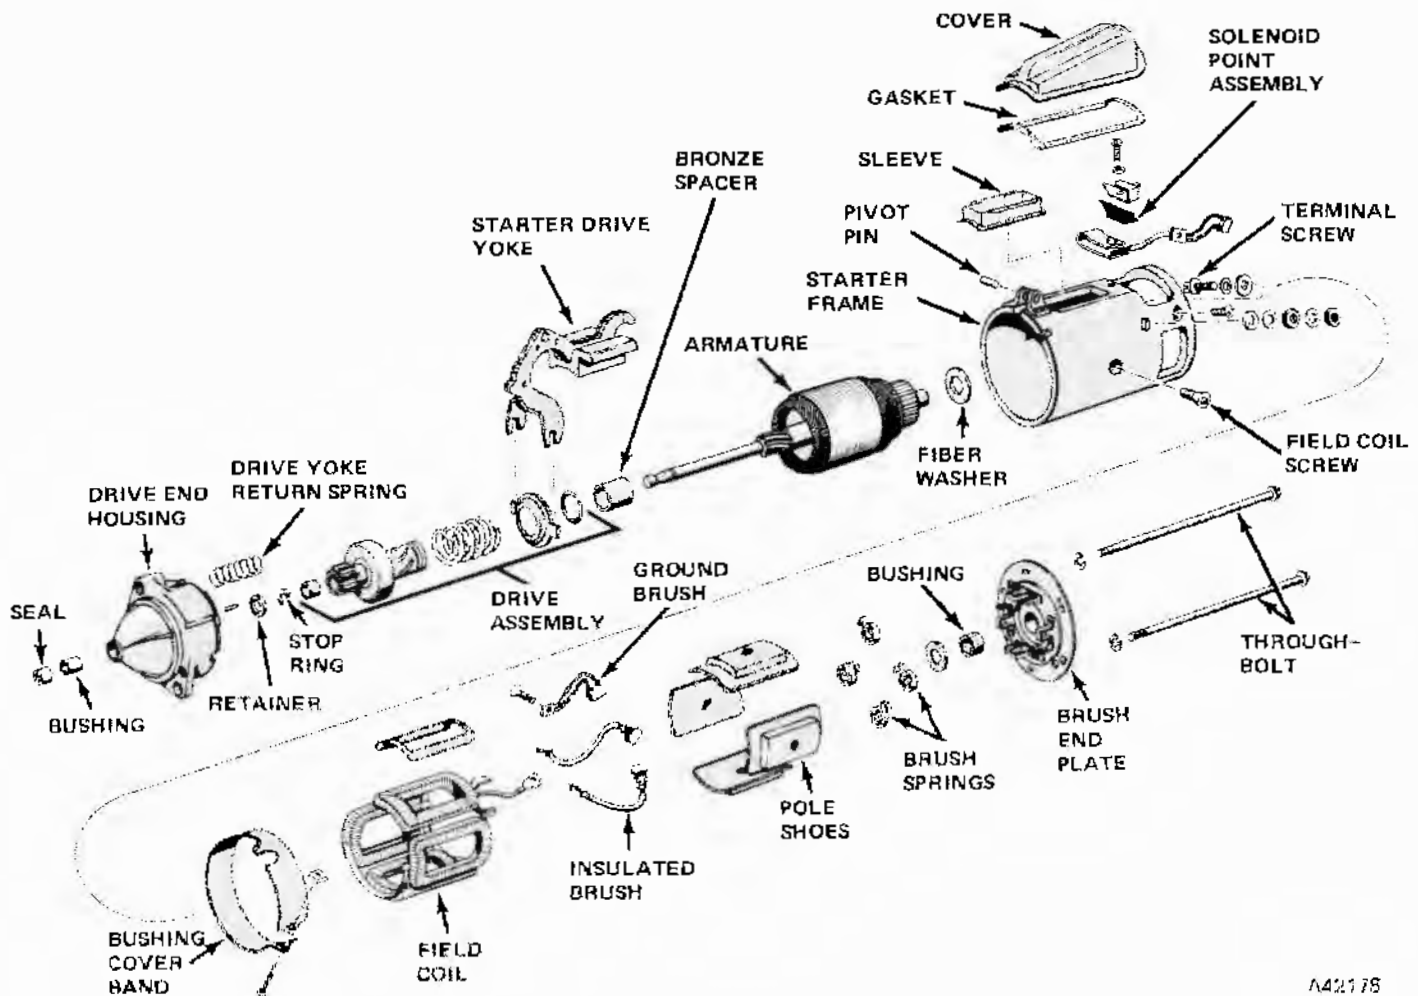

Fig. 3-42 Stater Motor - Disassembled View
Refer to figure 3-42 for parts identification.
- (1) Use a brush or air to clean starter frame, field coils, armature, drive assembly, and drive end housing.
- (2) Wash all other parts (except field coils) in solvent and dry parts.
- (3) Inspect armature windings for broken or burned insulation and unsoldered connections.
- (4) Check armature for open circuits and grounds as outlined in Armature Test Procedure.
- (5) If the commutator is dirty, it may be cleaned with No. 00 or 000 sandpaper.
- (6) If armature commutator is worn, out-of-round (0.005 inch or more), or has high insulation, it should be turned down on a lathe.
- (7) Inspect armature shaft and two bushings for scoring and excessive wear.
- (8) Inspect drive assembly pinion gear for damage.
**NOTE:** An engine that has repeated starter motor pinion failures should be checked for proper ring gear location (fig. 3-42), missing or improper parts or misaligned bell housing. For wobbling ring gear, the maximum allowable runout is 0.030 inch. Check for broken welds or broken flex plate.
- (9) Check drive assembly clutch by grasping and rotating pinion gear. Gear should rotate freely in one direction and lockup in opposite direction.
- (10) Check brush holders for broken springs and insulated brush holders for shorts to ground. Tighten